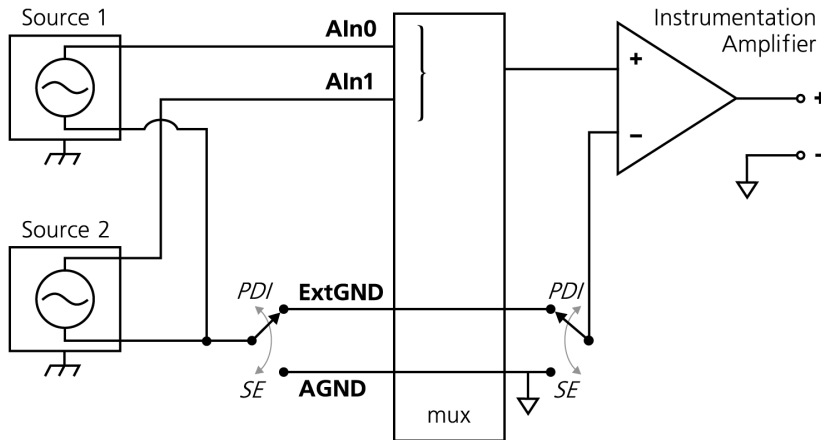

Figure 5.1—Wiring for single-ended and pseudodifferential inputs
The multiplexer on MF boards is located at the signal inputs and can be switched to function either in single ended (SE) or differential (DI) mode (Fig 5.1). The selected mode is applied to all input channels. The output of the mux feeds an instrumentation amplifier and then the signal goes into a custom programmable gain amplifier (PGA). Channel numbers, along with their gains, are stored in a Channel List. With this mechanism you can select the order in which the channels are read as well as set different gains on a per-channel basis.
A PowerDAQ card operating in single-ended mode (Fig 5.1) digitizes across as many as 64 channels. For single-ended inputs you connect one wire from each signal source to the High input of the data-acq system's input amplifier, and all signals share a common return path connected to analog ground (AGND). You should connect this common return path to both a ground near the signal source and also to the ground on the PC, which in this way gets set at the same level as the signal ground.
The PDL-MF card allows operation in pseudodifferential mode (Fig 5.1). For pseudodifferential inputs you connect one wire from each signal source to the High input of the data-acq system's input amplifier, and all signals again share a common return path to AGND. However, this ground signal is typically referenced to a remote source and it is separated from the PC ground; thus it can float at a different level. The maximum difference between common ground and PC ground should never exceed 10V. You can remove the effect of this voltage offset from measurement results by subtracting the difference between AGND and COM from the measured result. Because the AGND line in a pseudodifferential setup is not connected to the computer ground, it is not subject to the associated digital noise within the PC.